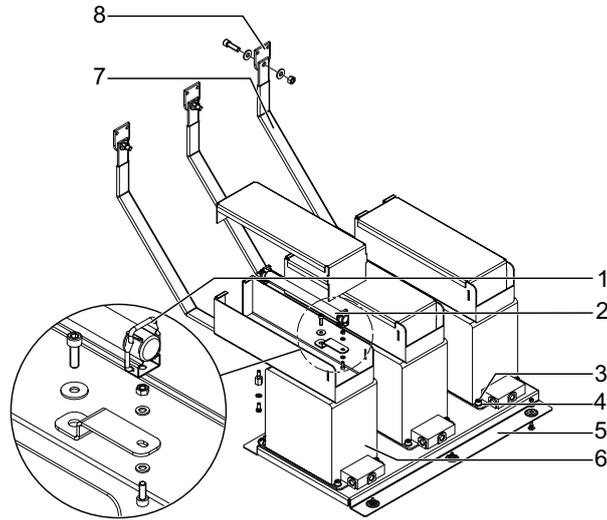

Figure 57
1. Press the snap lock (1) of the fuse box, and pull it upwards.
2. Remove the fuse (2). Refer to Figure 57.
1. Unscrew the M10 screws (3) and remove the washer (4) provided on the mounting plate (5) on the either side of VT (6). Refer to Figure 57.
2. Unscrew fixed VT connection copper bar (7) to the CT-VT connector (8) to access the VT.
3. Remove the VT (6).